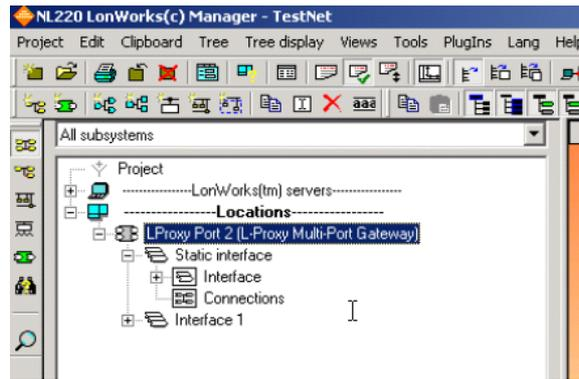

Figure 77: Interfaces of the L-Proxy device in tree.
- The virtual interface must now appear in the L-Proxy device in the tree (see Figure 77).